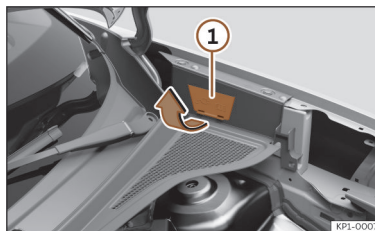

Fig. 64 Between the left wing panel and the engine bonnet hinge: Charging connector manual emergency release cover.
The puller for the manual release mechanism is on the left hand side of the engine compartment, above the charging socket >>> Fig. 64.
- Pull the tabs on the cover and slide the cover upwards >>> Fig. 64 ① to reveal the handle.